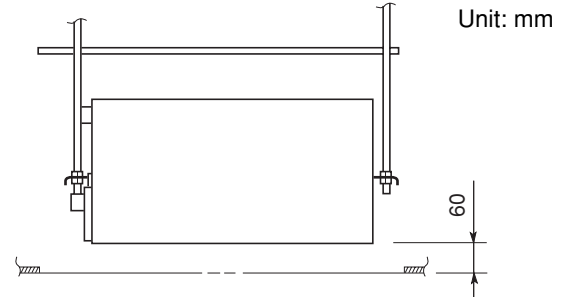

Fig. 3-23
- (3) The distance between the unit and the opening in the ceiling and the distance between the bottom surface of the ceiling and the bottom surface of the flange of the unit should follow the dimensions given in Fig. 3-23. Use the supplied installation gauge to check.